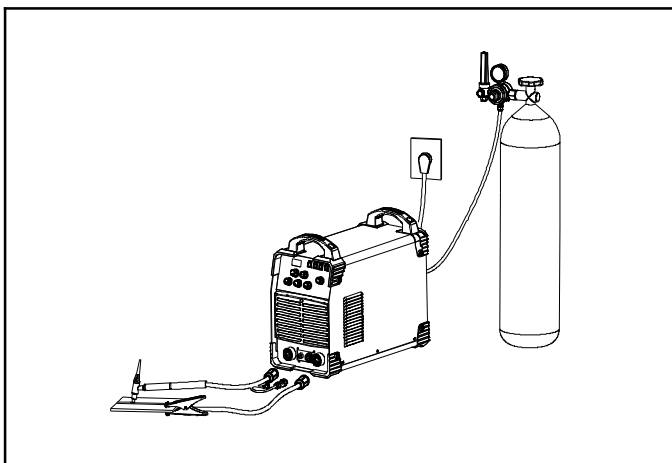

Fig11.2 HF Arc Ignition or Lift-arc TIG Welding Sketch Map
- 3) Please connect earth clamp to welder's "+" and torch connect to welder's "-" before TIG operation (as shown in Fig 11.2). No PC is permitted or else welding cannot be processed normally. Connect torch control cable to the corresponding connector and choose the proper welding mode per workpiece material and check if the Tungsten electrode is in match with panel's Tungsten electrode parameters and current parameters. When under AC welding mode, improper balance parameter may result in abnormal welding operation.